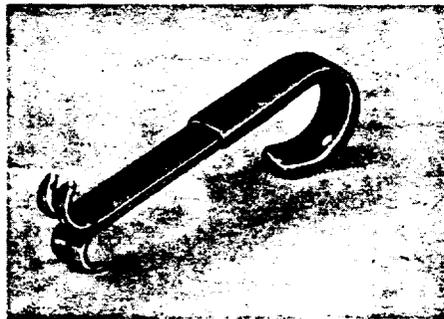

Figure 11. KS-20620, L4 Stripper
2.17 The KS-20620 strippers (Figures 11 and 12) are convenient, small, lightweight tools with sharp-edged grooves for removing insulation from distributing frame wire. List 1 is the basic insulation removal tool. Lists 2 and 3 have a thumb-operated shear, mounted on the stripper handle, that provides a stripped length of 1-5/8 inches (41 mm). List 4 has two (paired) strippers mounted back to back. Lists 5 and 6 provide stripping slots for two wire gauges plus a thumb-operated shear for 1-5/8 inch (41 mm) stripped length. List 7 is used for stripping and cutoff of DT22P wire. (See Table C.)